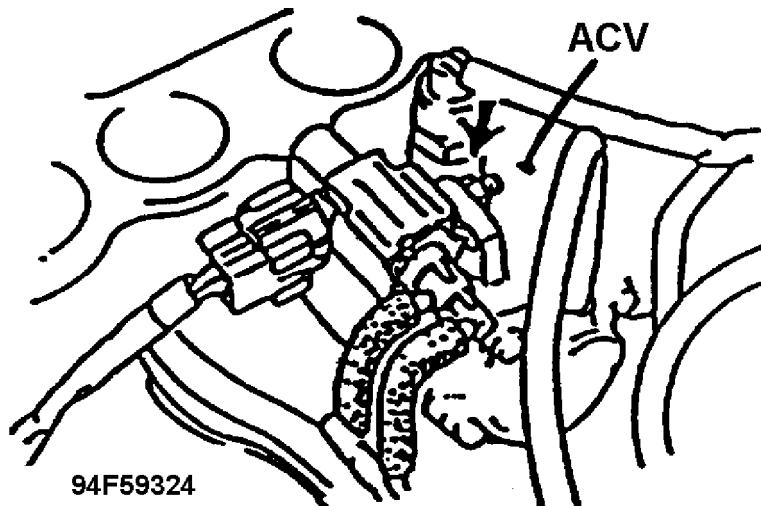

Fig. 42: Three-Way Solenoid Nut to be Removed
19. Remove the nut shown in Fig. 42. Remove the three-way solenoid.